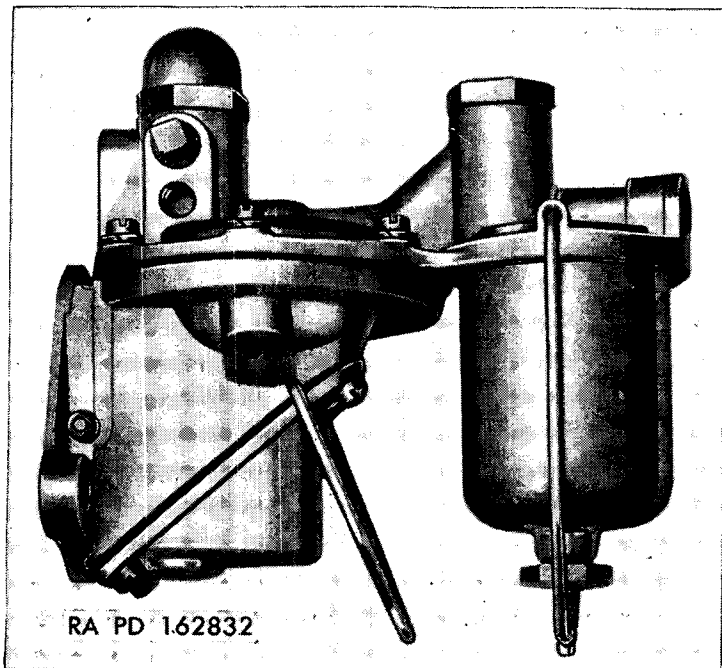

Figure 6. Fuel pumps, series B, D, and O.
*a. Identification.* Series B, D, and O fuel pumps (fig. 6) are of similar construction. Series B and O use small diaphragms of  $3\frac{1}{4}$ -inch diameter, while series D uses a 4-inch diameter diaphragm.
- (1) Mark edges of top cover and body with a file. Mark at heat shield stud if used. The parts may then be assembled in the same relative positions and heat shield stud properly located.
- (2) Remove cover screws and lock washers. Also remove heat shield stud, if used. Separate cover from body by jarring cover loose with light plastic hammer.